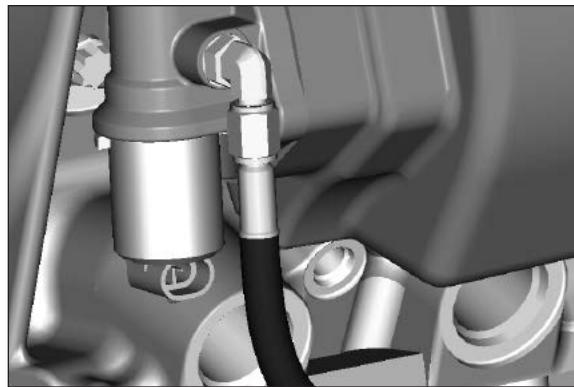

Figure 38
9. Securely attach the high pressure line to the valve. Tighten hose end fitting 2 flats from finger tight (**Fig. 38**). If Wet Spline option connect hose to tee fitting on the flange. Not available for the 288 Series Installations.